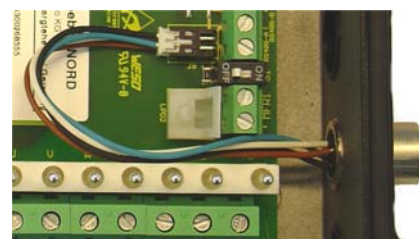

Fig. 2: M12 socket connection
5. Connect the M12 socket system connector to the appropriate slot (see Fig. 2)
The frequency inverter must first be removed before it can be electrically connected. To do this, undo the 4 fastening screws (Fig. 1) so that the frequency inverter can be lifted off vertically (Fig. 2). After connecting the supply voltage, the frequency inverter must be vertically reattached (Fig. 3), beginning with the plugs on the rating plate side which ensure that the inverter is positioned correctly. Further information about attaching customer units can be found in **Chap. 3.3.3 “Mounting the customer unit”**